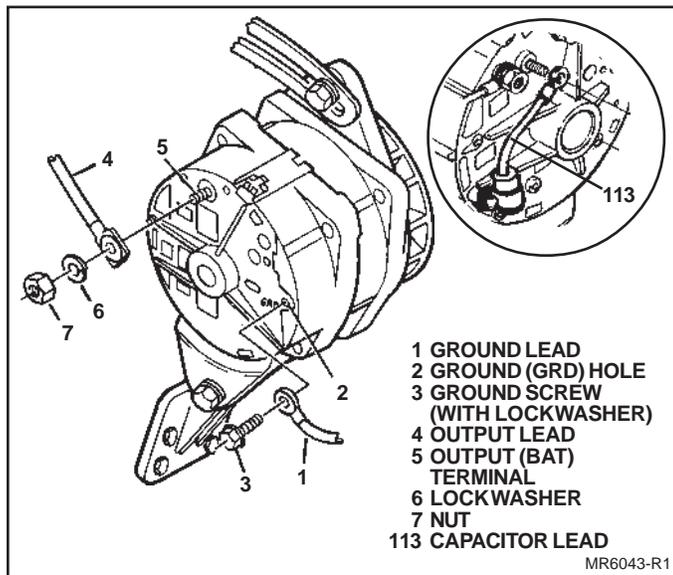

Figure 44. Installing Ground and Output Leads
- Ground lead to "GRD" hole in SRE housing, with ground screw/lockwasher assembly (Fig. 44).
- Output lead to "BAT" terminal, using lock washer and output terminal nut (Fig. 44).